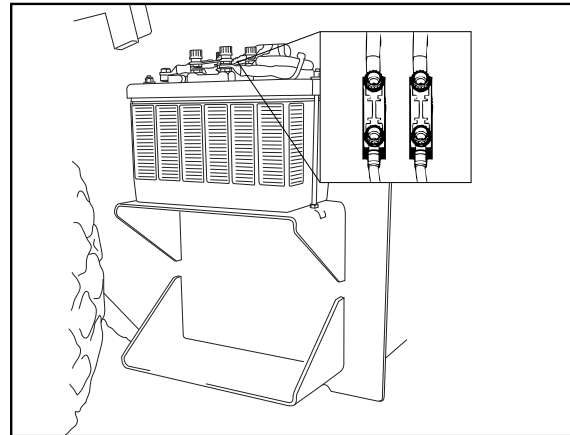

Fig. 115
- Remove the battery (Fig. 115) and clean the battery compartment.